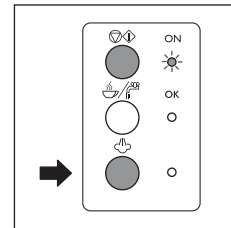
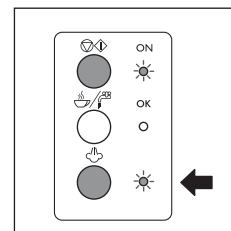

fig. 17
fig. 18
2. Press the steam button (fig. 17) and wait for the steam indicator light to come on (fig. 18). The OK indicator light indicates that the boiler has reached the ideal temperature for steam production.